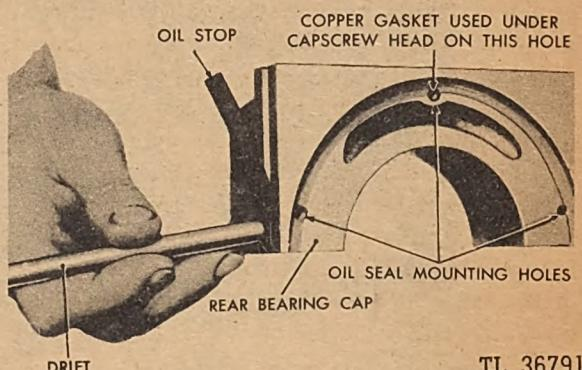

Fig. 139. Installing Oil Stops in Rear Cap
d. *Replacing Oil Stops.* Replace the rear main bearing cap oil stops during the overhaul. (See Figure 139.) If the standard oil stops are not available, the grooves can be packed with candlewick which can be firmly
NOTE: New oil stops should be installed in the cap. (See Figure 139.) These oil stops seal the sides of the cap to the crankcase and prevent oil from leaking through.